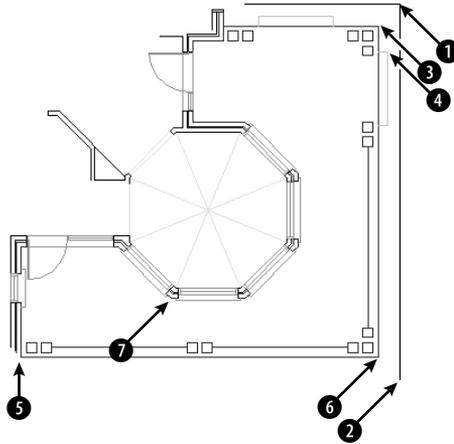

Figure 14-12: The house plan with the octagonal ceiling.
2. Save the file as `ab14-03.dwg` in your AutoCAD Bible folder. This is the same drawing used in the previous two exercises, as shown in Figure 14-12. OSNAP should be on with running object snaps for endpoint and intersection. If the Dimension toolbar isn't visible, right-click any toolbar and check Dimension.
Specify first extension line origin or <select object>: *Pick the endpoint at ❶ in Figure 14-12.*
6. The command repeats the Specify a second extension line origin or [Undo/Select] <Select>: prompt. Pick the endpoint at **2** in Figure 14-12 to place the dimension. Press Enter twice to end the command.
Specify first extension line origin or <select object>: Choose the endpoint at **5** in Figure 14-12.
8.  Choose Baseline Dimension from the Dimension toolbar. At the Specify a second extension line origin or [Undo/Select] <Select>: prompt, pick the endpoint or intersection at **6** in Figure 14-12. Press Enter twice to end the command.